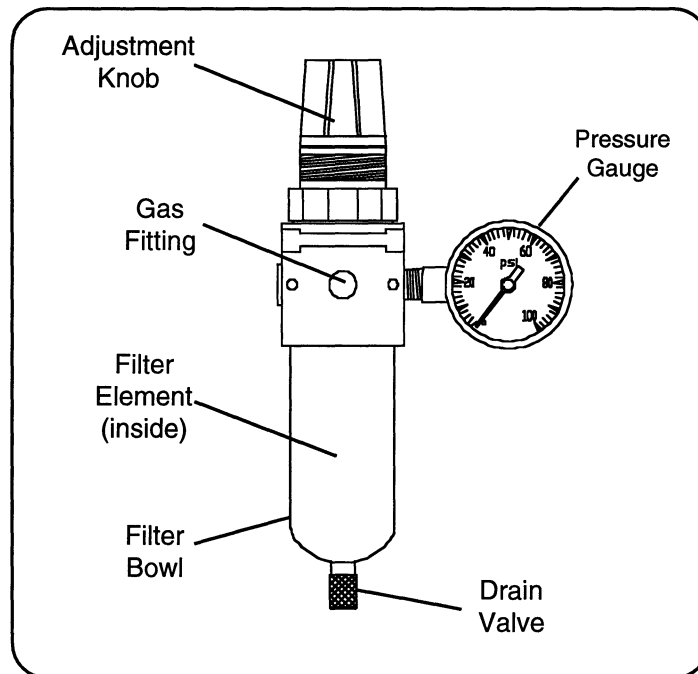

Figure 4-3 Pressure Regulator Components
4. Set the power switch to the ON (I) position. The POWER ON, LINE VOLTAGE, and GAS PRESSURE LEDs should light. The OVER TEMPERATURE LED should remain off.
5. Push the GAS TEST switch while checking the filter/pressure regulator gauge for a reading of 70 psi (4.8 bar). If the reading is incorrect adjust the pressure regulator as follows (see Figure 4-3).